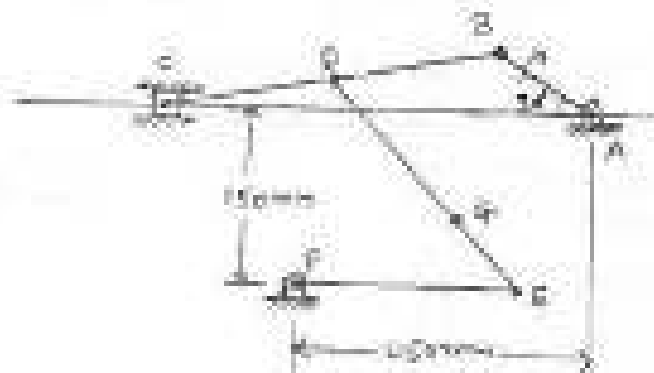

Fig. 2
- Q2) In a mechanism as shown in fig. 2, the link AB rotates with uniform angular velocity of 30 rad/s . The lengths of various links are : $AB = 100 \text{ mm}$, $BC = 300 \text{ mm}$, $CD = 150 \text{ mm}$, $DE = 150 \text{ mm}$, $EF = 200 \text{ mm}$, $DG = 185 \text{ mm}$. Determine the velocity and acceleration of slider at C and point G for the given configuration. [18]